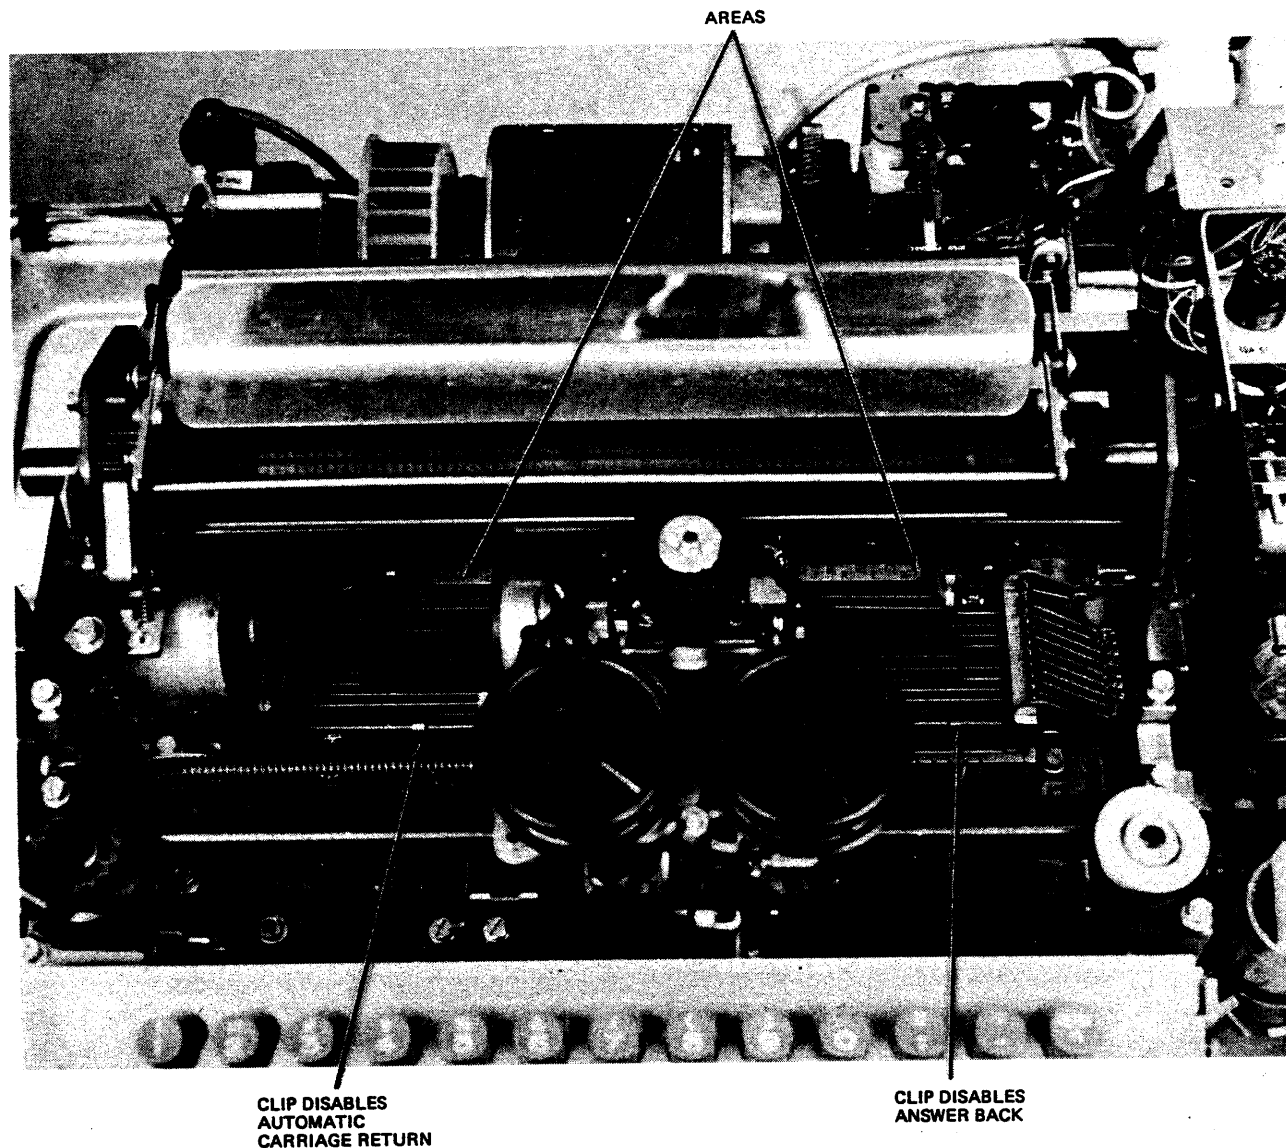

Figure 3-39 Disabling Answerback and Carriage Return
2. **Automatic Carriage Return:** This option is disabled at the factory and must remain disabled (see Figure 3-39).
3. **Answerback:** The KSR can operate on local or remote answerback mode. To disable remote answerback, move the copper colored clip from the right front of the code bar basket to slot 15 at the right end of the code bar basket (see Figure 3-39).